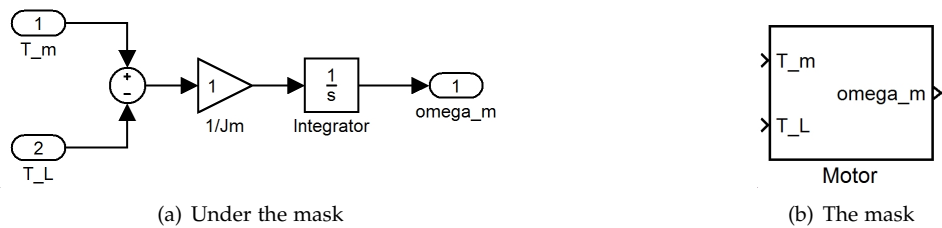

Figure 2: Simple motor implemented in Simulink
- (a) Implement the motor in Simulink as illustrated in Figure 2. Choose yourself if you want to hardcode the parameter  $J_m$  (as in the Figure), or you want to make it a mask parameter.